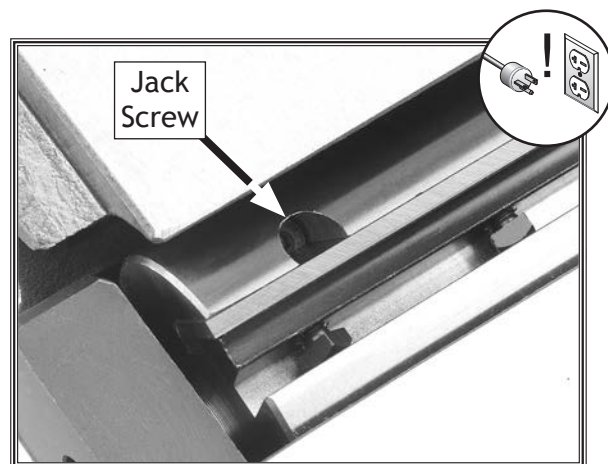

Figure 44. Location of jack screw access hole.
7. **Jack Screws**—Access jack screws through holes in cutterhead (see **Figure 44**). Using a hex wrench, rotate jack screws to raise or lower knife. When knife is set correctly, it will barely touch the bottom of the straightedge or the middle pad of the knife jig. Snug gib bolts just tight enough to hold knife in place. Repeat with remaining knives.